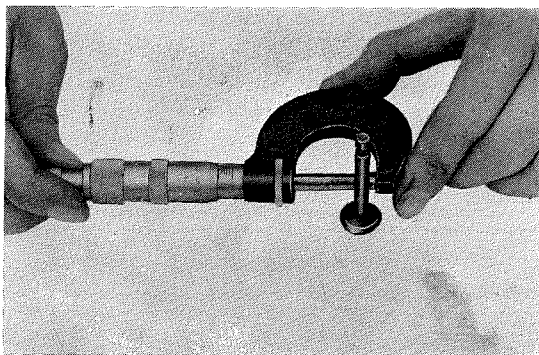

Fig. 30
6. Measure the valves using a dial gauge. (Fig. 30)